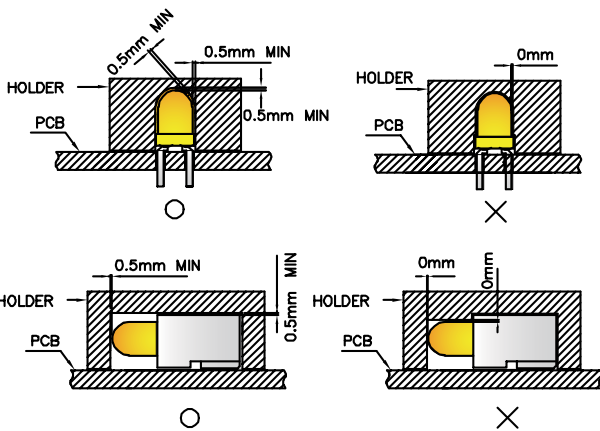

Fig. 7
- During soldering, component covers and holders should leave clearance to avoid placing damaging stress on the LED during soldering. (Fig. 7)